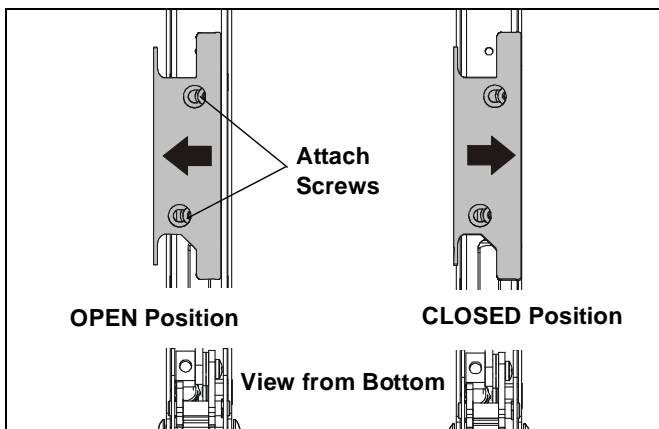

Figure 5:
2. Open the cable management bracket by sliding it towards the edge of the arm (See Figure 5).